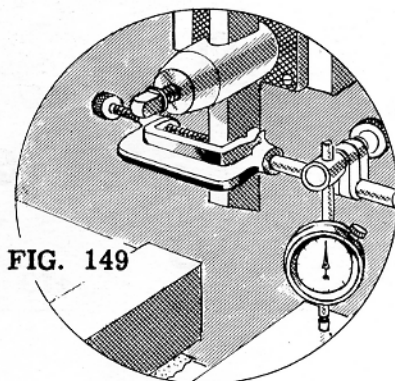

FIG. 149
**NOTE:** Dial indicators are made with two types of contact shafts, one parallel and the other perpendicular to the face of the dial. Figures 149 and 152 illustrate the arrangement for both types of indicators.